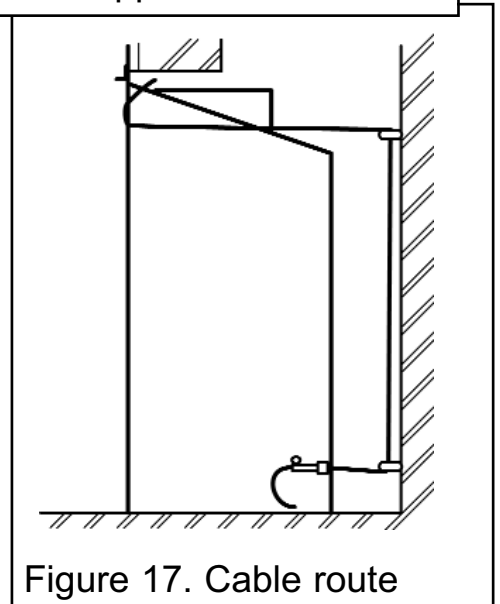

Figure 17. Cable route
7. Thread the cables through the eyescrews. Return the cables through the holes near the bottom of the hotbox back panel (See figure 17)